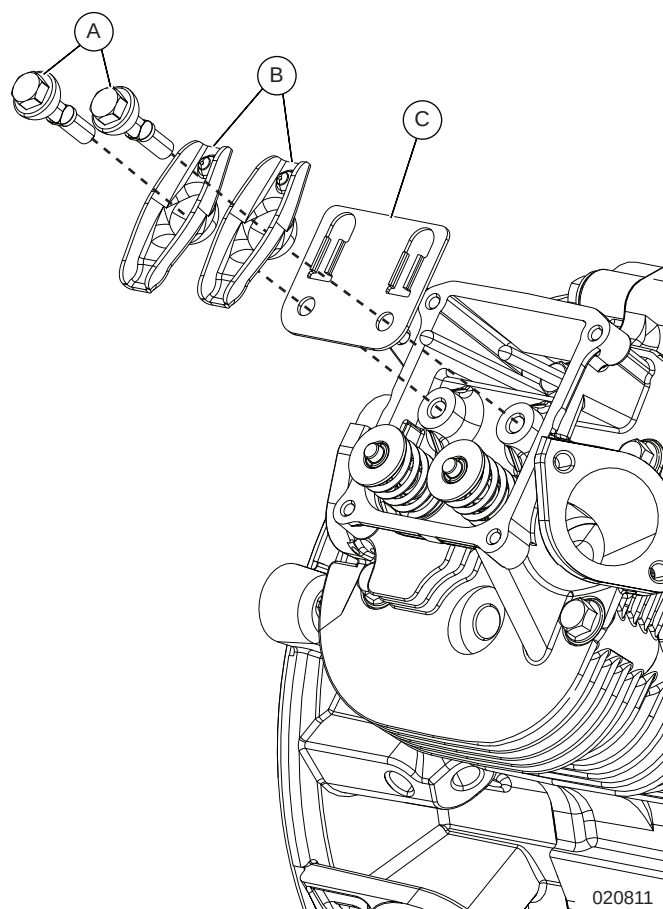

Figure 6-36. Remove Rocker Arms
1. See Figure 6-36. Remove rocker arm pivot studs (A), rocker arms (B), and pushrod guide plate (C) from cylinder head.